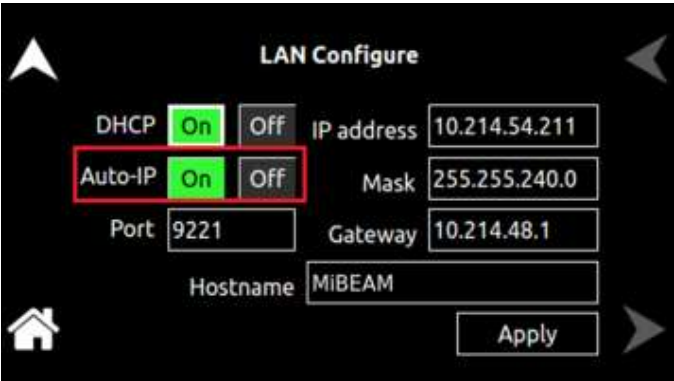

Figure 11-122. LAN Screen - Auto -IP
- **Auto-IP:** Enables or disable the Auto-IP configuration, when DHCP is ON. Refer to Figure 11-122.